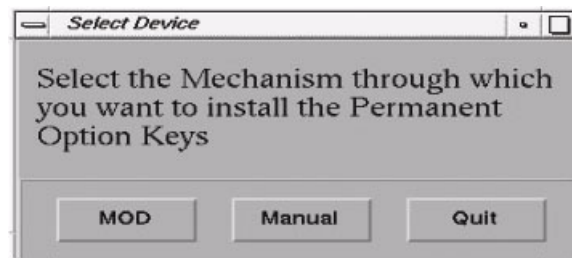

Figure 1-13 Select Device Screen
- 3.) Click on the PERMANENT button. (See Figure 1-13).
- 4.) Click on the MOD button (Figure 1-13) and insert the Options MOD.